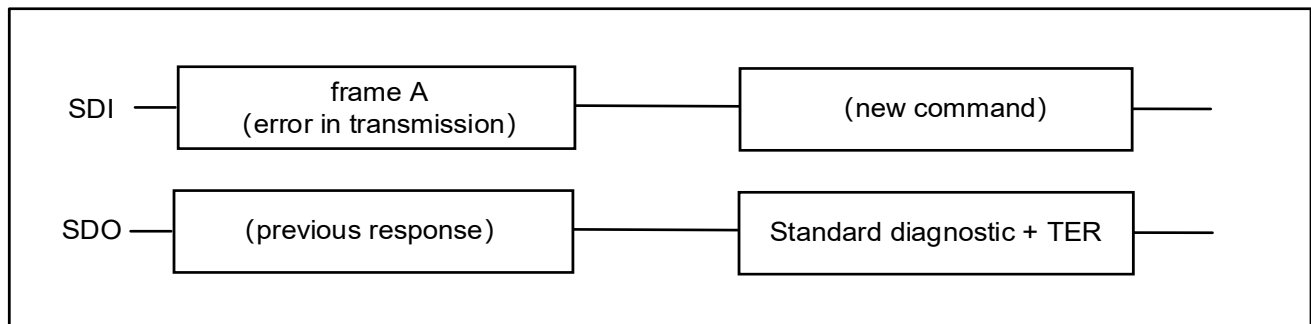

Figure 10.8 NSD56242 response after an error in transmission
- In case an error in transmission happened during the previous frame (for instance, the clock pulses were not multiple of 8 with a minimum of 16 bits), shown in **Figure 10.8**